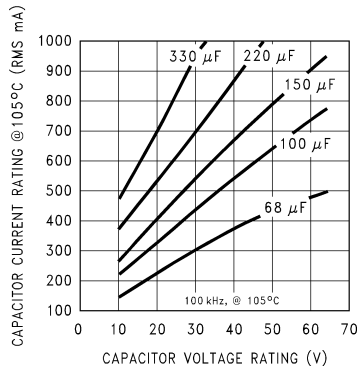

Figure 28. RMS Current Ratings for Low ESR Electrolytic Capacitors (Typical)
<p>B. Select an appropriate capacitor value and voltage rating, using the capacitor code, from the output capacitor selection table in <a href="#">Table 10</a>. There are two solid tantalum (surface mount) capacitor manufacturers and four electrolytic (through hole) capacitor manufacturers to choose from. It is recommended that both the manufacturers and the manufacturer's series that are listed in the table be used. A table listing the manufacturers' phone numbers is located in <a href="#">Table 4</a>.</p> <p>4. Catch Diode Selection (D1)</p> <p>A. In normal operation, the average current of the catch diode is the load current times the catch diode duty cycle, 1-D (D is the switch duty cycle, which is approximately <math>V_{OUT}/V_{IN}</math>). The largest value of the catch diode average current occurs at the maximum input voltage (minimum D). For normal operation, the catch diode current rating must be at least 1.3 times greater than its maximum average current. However, if the power supply design must withstand a continuous output short, the diode should have a current rating greater than the maximum current limit of the LM2672. The most stressful condition for this diode is a shorted output condition.</p> <p>B. The reverse voltage rating of the diode should be at least 1.25 times the maximum input voltage.</p> <p>C. Because of their fast switching speed and low forward voltage drop, Schottky diodes provide the best performance and efficiency. The Schottky diode must be located close to the LM2672 using short leads and short printed circuit traces.</p> <p>5. Input Capacitor (CIN)</p> <p>A low ESR aluminum or tantalum bypass capacitor is needed between the input pin and ground to prevent large voltage transients from appearing at the input. This capacitor should be located close to the IC using short leads. In addition, the RMS current rating of the input capacitor should be selected to be at least ½ the DC load current. The capacitor manufacturer data sheet must be checked to assure that this current rating is not exceeded. The curves shown in <a href="#">Figure 28</a> show typical RMS current ratings for several different aluminum electrolytic capacitor values. A parallel connection of two or more capacitors may be required to increase the total minimum RMS current rating to suit the application requirements.</p> <p>For an aluminum electrolytic capacitor, the voltage rating should be at least 1.25 times the maximum input voltage. Caution must be exercised if solid tantalum capacitors are used. The tantalum capacitor voltage rating should be twice the maximum input voltage. The tables in <a href="#">Table 7</a> show the recommended application voltage for AVX TPS and Sprague 594D tantalum capacitors. It is also recommended that they be surge current tested by the manufacturer. The TPS series available from AVX, and the 593D and 594D series from Sprague are all surge current tested. Another approach to minimize the surge current stresses on the input capacitor is to add a small inductor in series with the input supply line. Use caution when using ceramic capacitors for input bypassing, because it may cause severe ringing at the VIN pin.</p> <p>6. Boost Capacitor (CB)</p> <p>This capacitor develops the necessary voltage to turn the switch gate on fully. All applications should use a 0.01 µF, 50V ceramic capacitor.</p> <p>If the soft-start and frequency synchronization features are desired, look at steps 6 and 7 in the fixed output design procedure.</p>	<p>B. From the output capacitor selection table in <a href="#">Table 10</a>, choose a capacitor value (and voltage rating) that intersects the capacitor code(s) selected in section A, C20 (<a href="#">Table 10</a>). The capacitance and voltage rating values corresponding to the capacitor code C20 are the:</p> <p>Surface Mount:  33 µF/25V Sprague 594D Series.  33 µF/25V AVX TPS Series.</p> <p>Through Hole:  33 µF/25V Sanyo OS-CON SC Series.  120 µF/35V Sanyo MV-GX Series.  120 µF/35V Nichicon PL Series.  120 µF/35V Panasonic HFQ Series.</p> <p>Other manufacturers or other types of capacitors may also be used, provided the capacitor specifications (especially the 100 kHz ESR) closely match the characteristics of the capacitors listed in the output capacitor table. Refer to the capacitor manufacturers' data sheet for this information.</p> <p>4. Catch Diode Selection (D1)</p> <p>A. Refer to the table shown in <a href="#">Table 5</a>. Schottky diodes provide the best performance, and in this example a 1A, 40V Schottky diode would be a good choice. If the circuit must withstand a continuous shorted output, a higher current (at least 2.2A) Schottky diode is recommended.</p> <p>5. Input Capacitor (CIN)</p> <p>The important parameters for the input capacitor are the input voltage rating and the RMS current rating. With a maximum input voltage of 28V, an aluminum electrolytic capacitor with a voltage rating of at least 35V (<math>1.25 \times V_{IN}</math>) would be needed. The RMS current rating requirement for the input capacitor in a buck regulator is approximately ½ the DC load current. In this example, with a 1A load, a capacitor with a RMS current rating of at least 500 mA is needed. The curves shown in <a href="#">Figure 28</a> can be used to select an appropriate input capacitor. From the curves, locate the 35V line and note which capacitor values have RMS current ratings greater than 500 mA.</p> <p>For a through hole design, a 330 µF/35V electrolytic capacitor (Panasonic HFQ series, Nichicon PL, Sanyo MV-GX series or equivalent) would be adequate. Other types or other manufacturers' capacitors can be used provided the RMS ripple current ratings are adequate. Additionally, for a complete surface mount design, electrolytic capacitors such as the Sanyo CV-C or CV-BS and the Nichicon WF or UR and the NIC Components NACZ series could be considered.</p> <p>For surface mount designs, solid tantalum capacitors can be used, but caution must be exercised with regard to the capacitor surge current rating and voltage rating. In this example, checking <a href="#">Table 7</a>, and the Sprague 594D series datasheet, a Sprague 594D 15 µF, 50V capacitor is adequate.</p> <p>6. Boost Capacitor (CB)</p> <p>For this application, and all applications, use a 0.01 µF, 50V ceramic capacitor.</p>